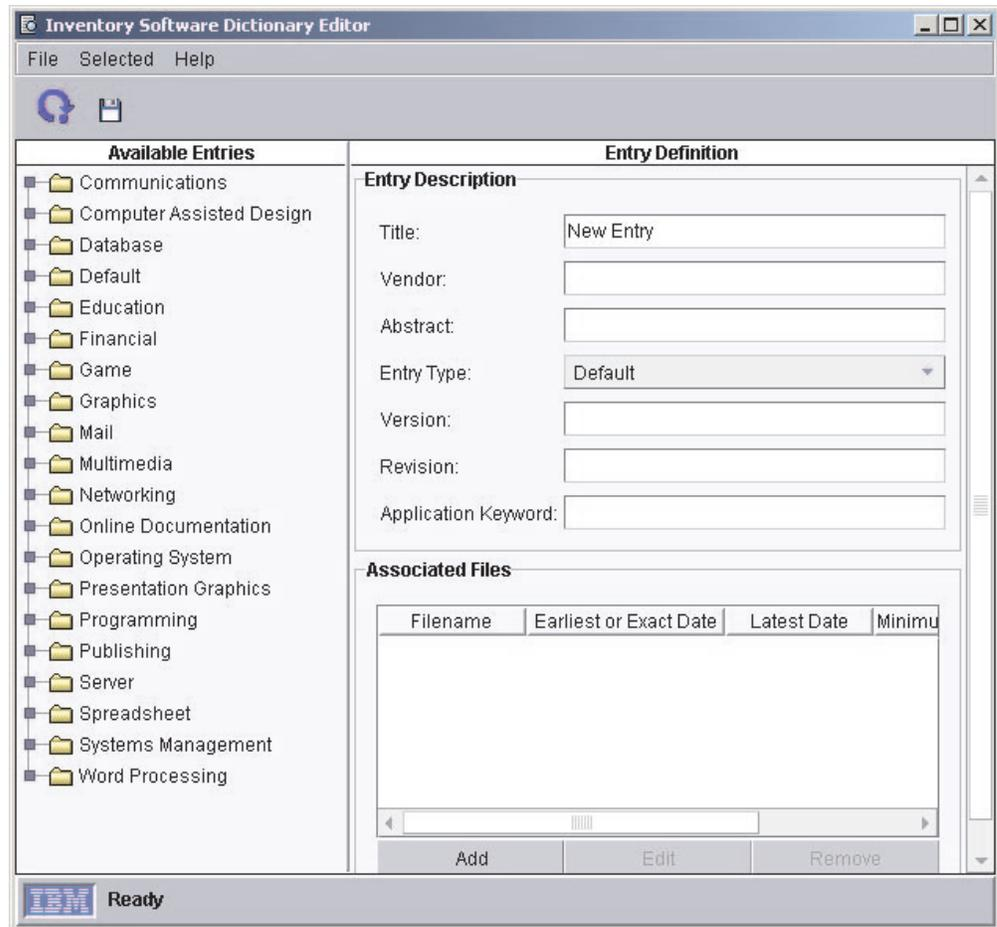

Figure 21. Inventory Software Dictionary Editor window
1. In the IBM Director Console Tasks pane, right-click the **Inventory** task; then, click **Edit Software Dictionary**. The Inventory Software Dictionary Editor window opens. (See Figure 21 on page 35.)